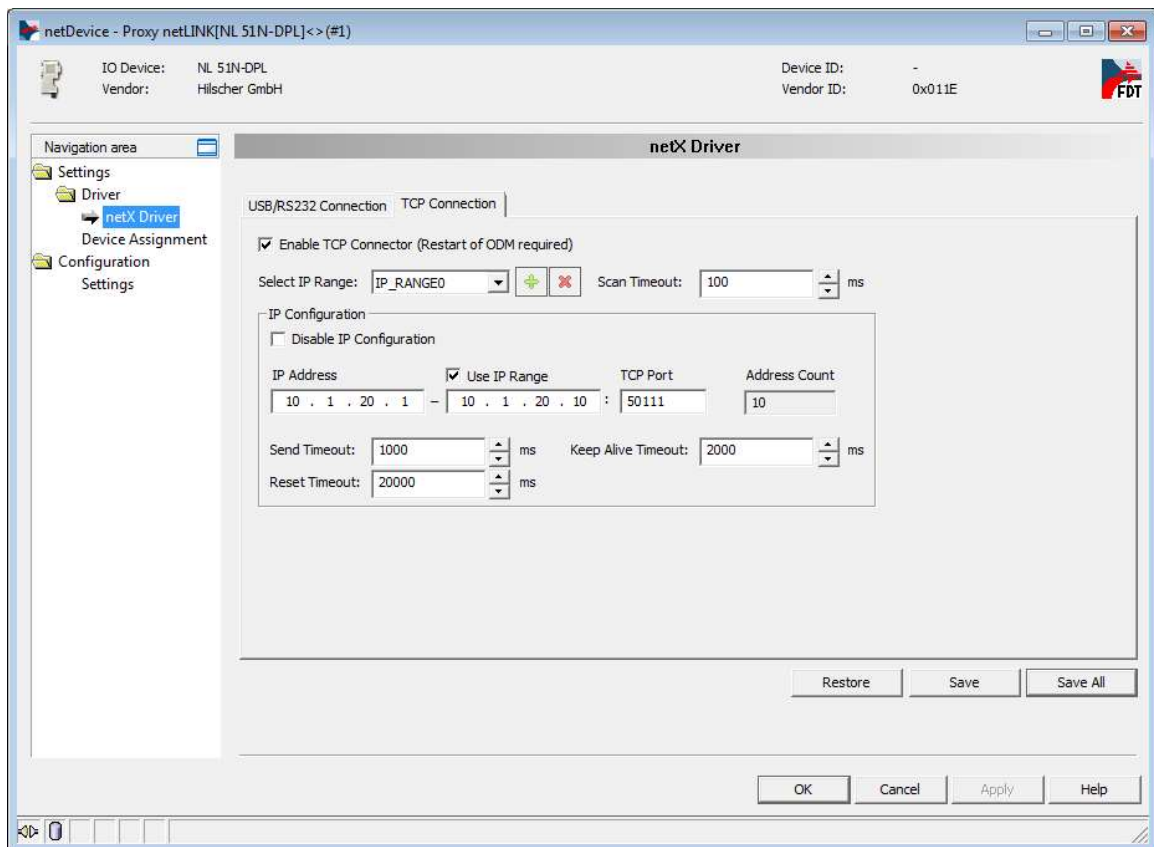

Figure 19: Search for SYCON IP Address
4. Verify that the settings match the settings in Figure 19.